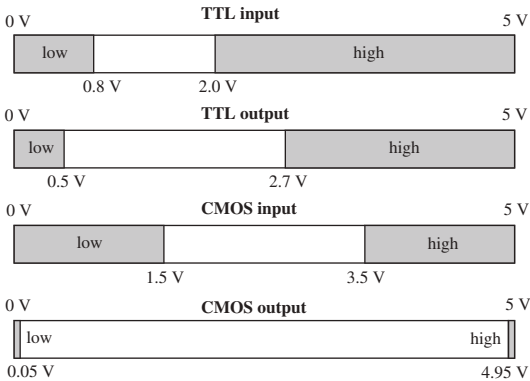

Figure 6.22 TTL and CMOS input and output levels.
In Chapter 3, we described bipolar junction transistors that are the building blocks for *TTL* logic, and MOSFETs that are the building blocks for *CMOS* logic. The two states of a digital device are defined by voltages occurring within specified acceptable ranges. The states and voltages for the two families are shown in Figure 6.22. For comparison purposes, we assume that both families are powered by a 5 V DC supply, although *CMOS*, unlike *TTL*, can be powered with a DC supply between 3 V and 18 V. For a *TTL* digital input, **logic zero** (0) or **low** (*L*) is defined as a value less than 0.8 V, and **logic one** (1) or **high** (*H*) is defined as a value greater than 2.0 V. The digital output of a *TTL* device typically ranges between 0 and 0.5 V for low and between 2.7 V and 5 V for high. The input voltage range 0.8 V to 2.0 V